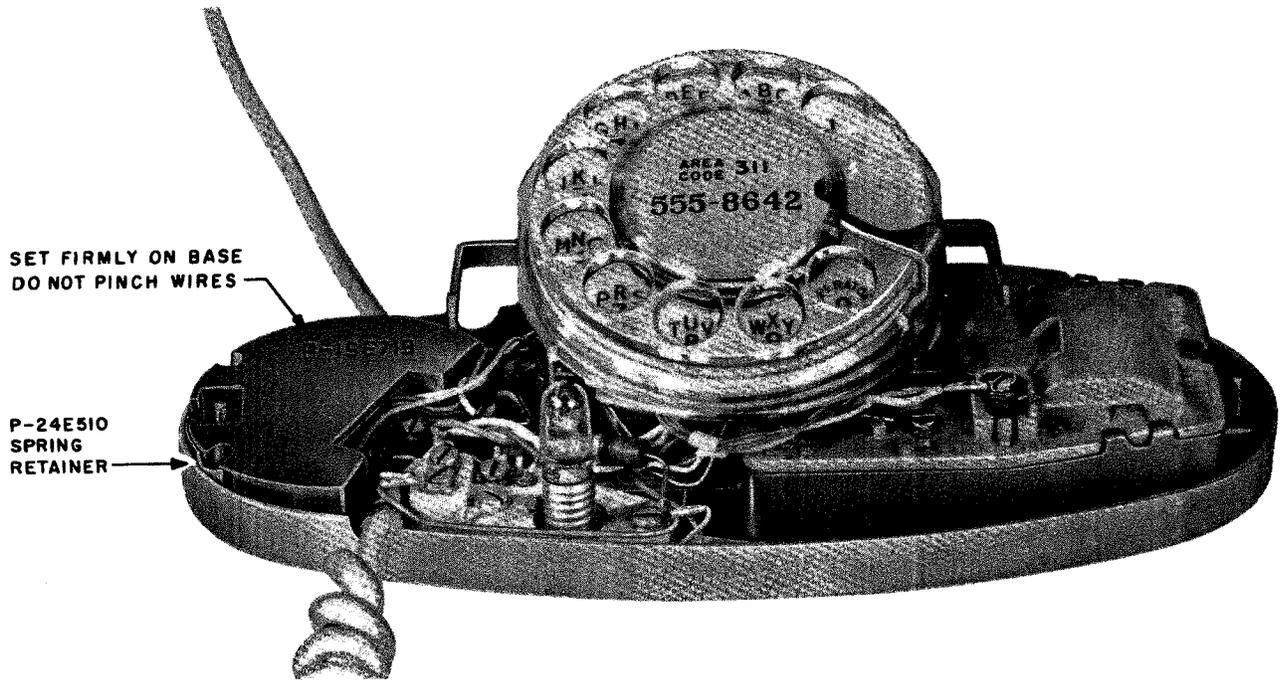

Fig. 10 – P-15E719 Weight Mounted in 701B Telephone Set
Make sure that no wires are caught between the weight and base of set. Insert retaining spring as shown in Fig. 10.
6. Place the tube in space below dial with dome of tube toward night-light socket and base of plastic tube bracket against dial support bracket. (See Fig. 10.)